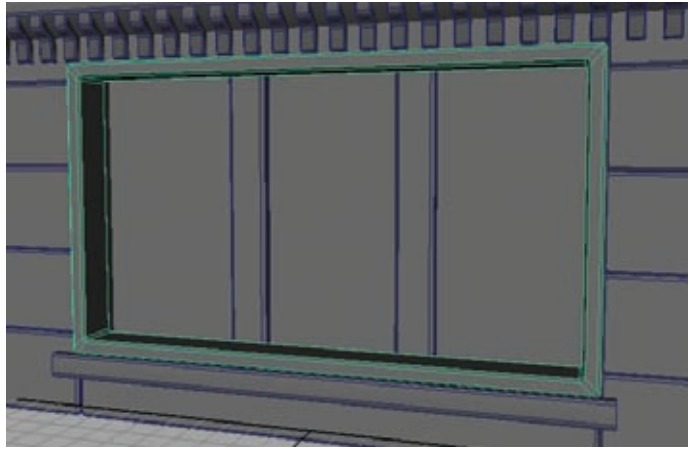

Figure 5.9
30. Bevel the forward-facing edges as well as the four corner edge loops (Figure 5.9)